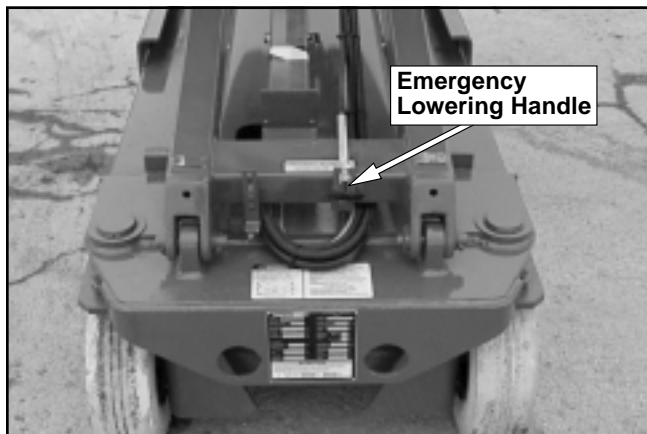

Figure 11.1—Emergency Lowering Handle
2. Locate the emergency lowering handle at the front of the aerial platform (refer to Figure 11.1).